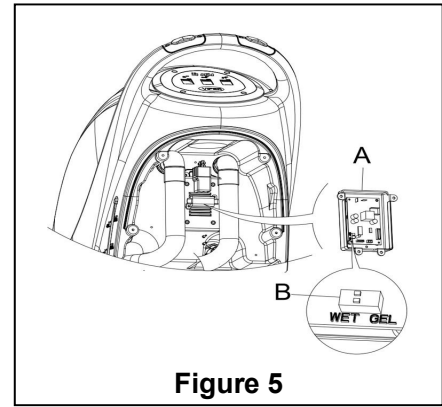

Figure 5
2. Take off draining hose (15).
4. Take off the control cover (5), and the screws of the battery cover (10). Remove the screws on the PCB stand. The DIP switch (B) for setting the battery model can be seen when flipping over the PCB board. (See Figure 5)
5. Adjust the micro DIP switch (B) to the position of "WET".